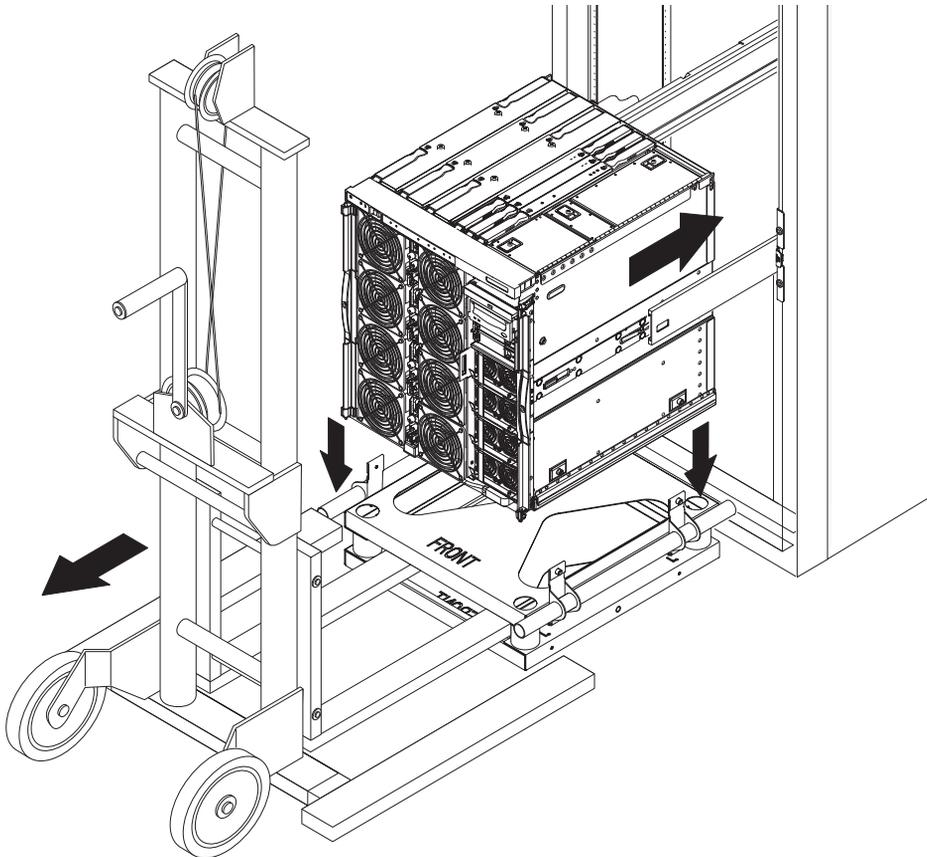

FIGURE 1-12 Removing the Shipping Cradle
10. Lower the shipping cradle out of the way with the lifting device (FIGURE 1-12).